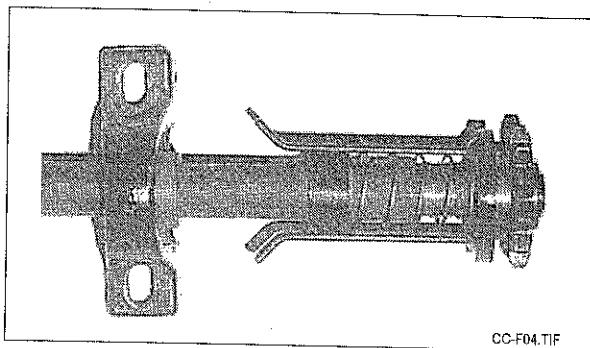

Figure 6.20 Clutch Engaged
17. Refer to Figure 6.20. After Stationary Calibration is complete **engage** the manual clutch collar by turning the calibration crank until the manual clutch collar is firmly seated over the milled $1\frac{1}{4}$ " (32 mm) bore sprocket.